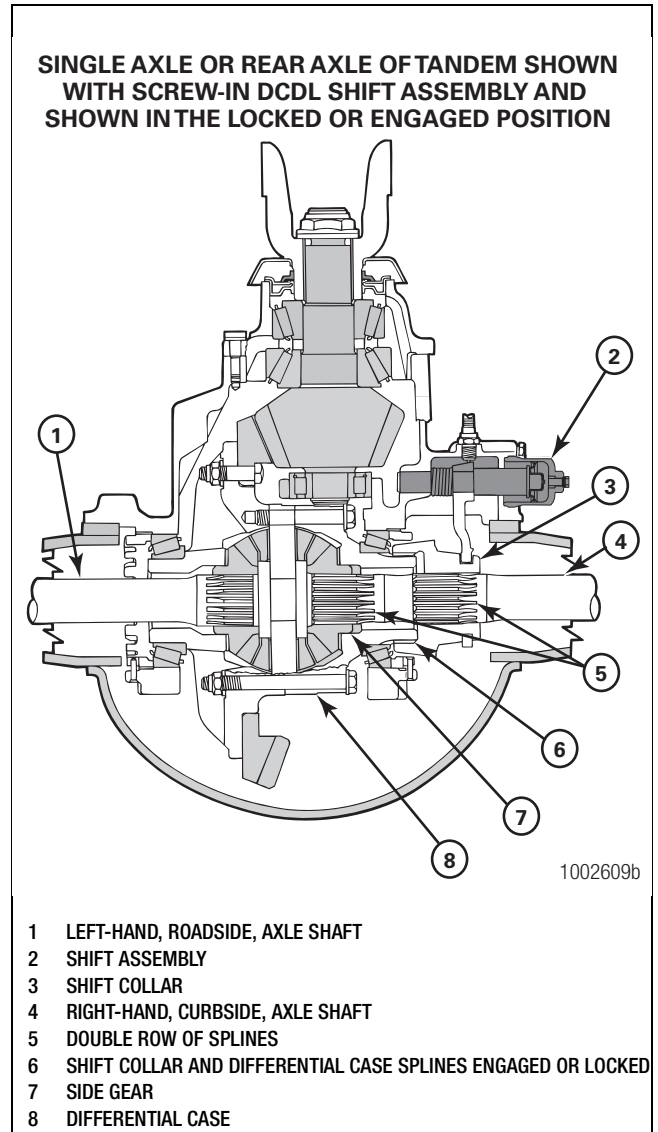

Figure 11.5
5. Install the axle shaft(s) indicated in Table AH. Axle shafts with a DCDL have a double row of splines that engage with the splines of the side gear and shift collar in the differential case. Figure 11.5. Continue with Step 6.